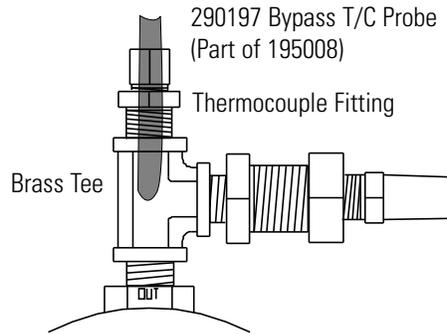

Figure 3. Probe Location
8. Install the thermocouple fitting to the top of the bypass assembly (see Figure 3).
9. Approximate the depth that the bypass probe will need to be inserted into the thermocouple fitting in order for the tip to be roughly centered in the brass tee (see Figure 3). Insert the bypass probe into the thermocouple fitting with the exposed part of the probe pointing towards the bypass solenoid and tighten the thermocouple fitting nut.